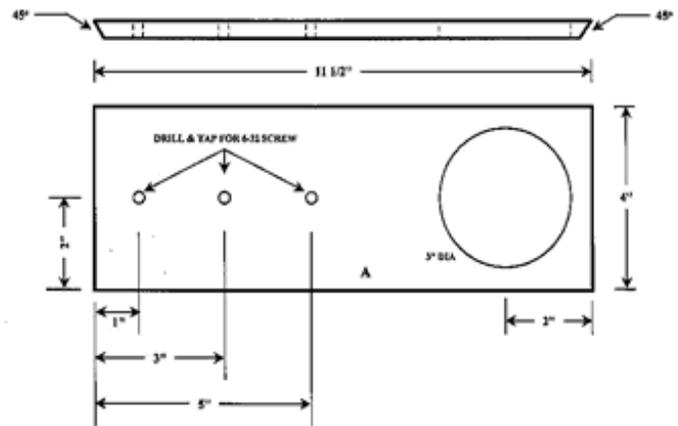

Figure 5 Top Piece
3. Cut out the top of the blade guard to the dimensions shown in Figure 5. Cut the 45° angles in each end of the top at this time.
9. Drill and tap the three holes in the top, as shown in Figure 5.
10. Cut the 3" hole into the top, as shown in Figure 5. I used a hole cutter for this task. I practiced on a scrap piece of Lexan and did a fit check with the plastic splice to ensure the hole diameter was sized correctly. Worked for me!